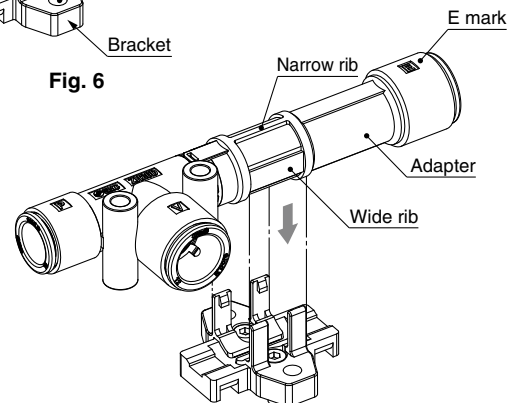

Fig. 7
- 3) To mount the product to the bracket, push it down with the adapter's narrow rib and E mark facing upward and the wider rib to the side (Fig. 7). Hold the adapter when rotating the vacuum (V) port for adjustment.